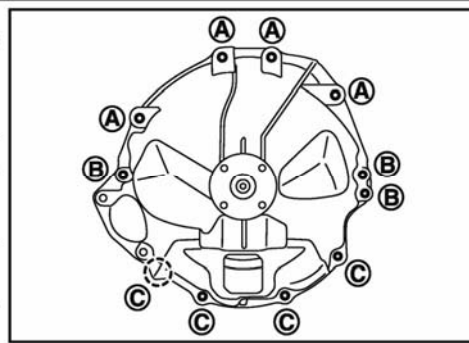

Figure 14
- Install the housing bolts in the correct locations according to Figure 14.
- Torque housing bolts according to Figure 14.